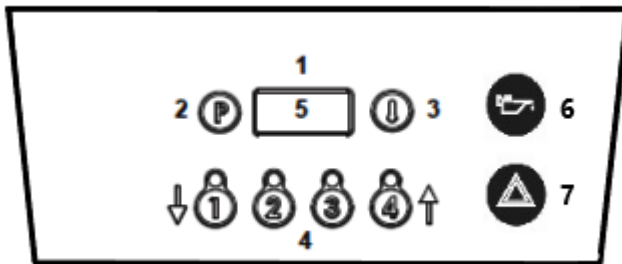

Figure 5 – E402FX Control panel
2.3.4 E402FX Fryer Control Panel (See Figure 5)
To re-set temperature limit thermostat: (Refer to Figure 5)